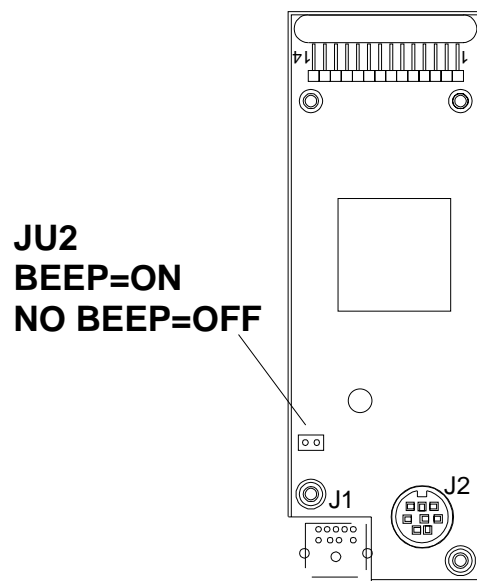

Figure 26, Keypad Rear View (with back cover removed)
- 3) Remove the jumper from header JU2, as shown in Figure 26.